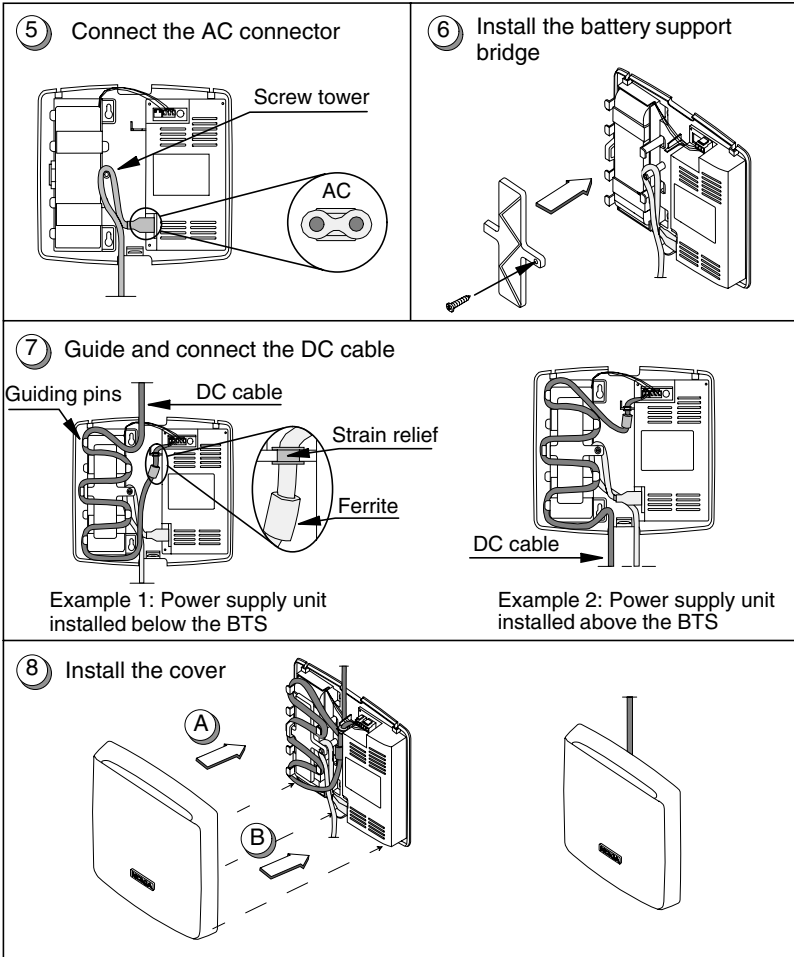

Figure 15. Installing the power supply unit (continued from Figure 14)
- 5. Connect the AC connector to the power supply unit. Guide the AC cable around the screw tower. See 5 of Figure 15.
6. Install the battery support bridge and tighten the screw using a pozidrive driver. See 6 of Figure 15.
7. Take the DC cable (the cable for connecting the power supply unit and the BTS) and put the excess cable around the guiding pins. Push the strain relief of the cable to the slot beside the connector. Connect the DC cable to the 2-pin connector. See 7 of Figure 15.
DC cabling depends on the installation location of the power supply unit. Two different ways are illustrated in 7 of Figure 15.
Install the power supply unit cover. First, press down the upper edge, then the lower edge, until the locking clip locks the cover on. See 8 of Figure 15.